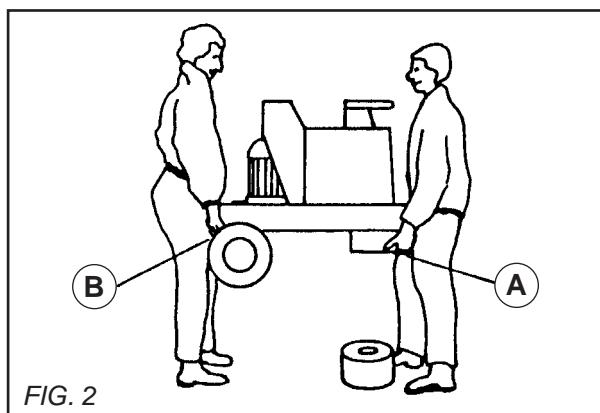

FIG. 2
- Hands should be placed on the front hub (A) and at the back of the machine (B). During this manoeuvre, the plate remains on the floor (see FIG. 2)